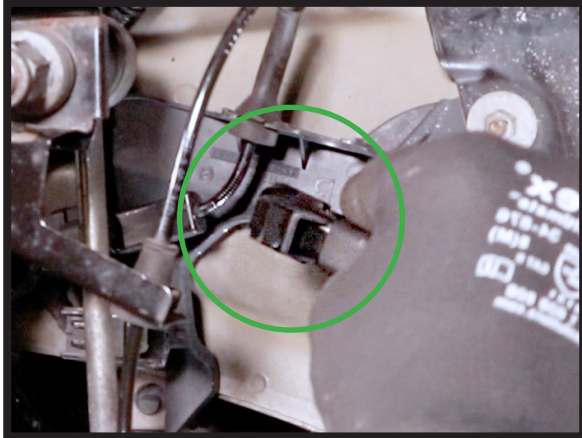

FIGURE 2
2. DISCONNECT ELECTRICAL CONNECTION AND UNHOOK THE WIRE FROM THE RETAINER BRACKET. (FIGURES 2, 3)